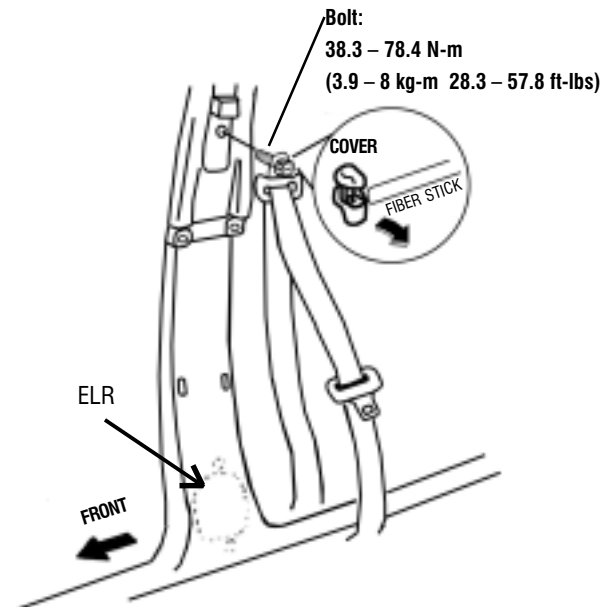

FIGURE 21
- 1.) USE FIBER STICK TO REMOVE THE BOLT COVER. (SEE FIGURE 21)